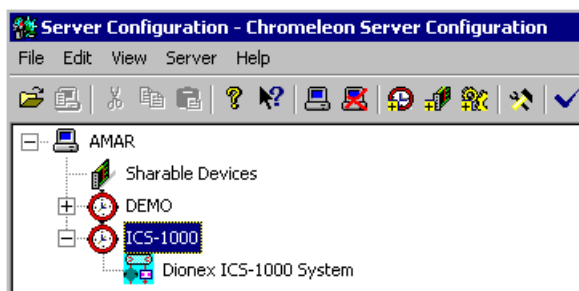

Figure 15. Example: ICS-1500 Timebase
1. Follow the instructions in *Installing the Chromeleon Chromatography Management System with a Dionex Ion Chromatography (IC)* (Document No. 031883) to add the DX-LAN card to the server configuration as a sharable device.
2. Select the timebase that was created for the ICS-1500 (see Figure 15); then, click the **Add device** icon  on the toolbar (or select **Edit>Add Device**).